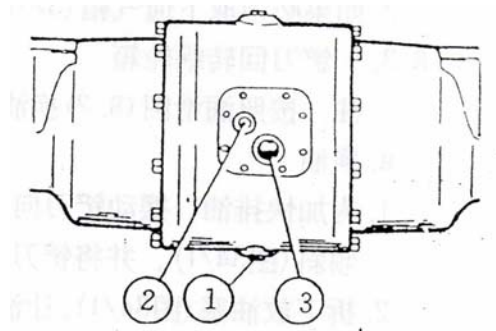

Fig. 31
1. Remove the drain plug (Fig.31/1) and drain oil into a container to assist draining, unscrewing the screw thread of oil filler (Fig.31/2). Close it only after oil is drained off;
2. Clean drain plug (Fig.31/1) and use a new sealing ring to refit and retighten;
3. Fill fresh oil at the oil filter (Fig.31/2) into axles until the middle of the oil level indicator (Fig.31/3) is reached;
1. Oil level must be at the middle of oil level indicator (Fig. 31/3).
2. If necessary, add oil at oil filler (Fig. 31/2)